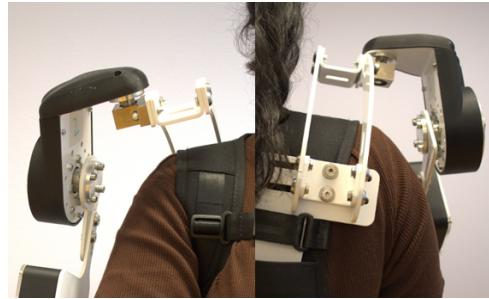
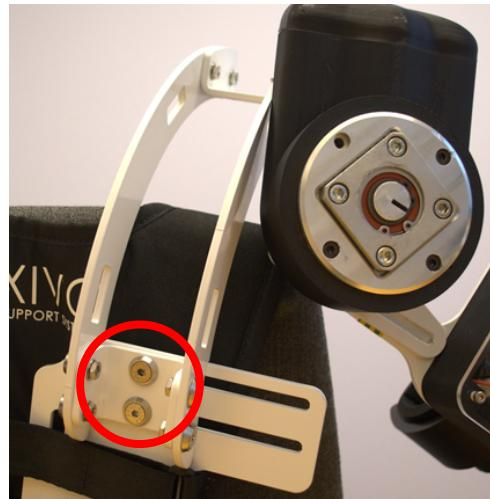

Figure 2: Shoulder joint aligned (left) and misaligned (right).
Figure 4: Bolts for adjusting shoulder breadth in red.
2. Make sure that the shoulder part of the exoskeleton is aligned with your shoulder, which can be seen in Figure 2. And then tighten the chest and waist straps.
4. If the Classroom Exo has the correct joint alignment as seen in figure 4 and 3, proceed to section 2.1.2. If not, proceed with section 2.1.1 “Adjusting the exoskeleton”.
1. Under the shoulder joint on the back of the exoskeleton you can find two bolts for which the 3.0 Allen Key fits, the bolts are marked in Figure 4. Loosen these, align shoulder joints according to Figure 2 and tighten the bolts.